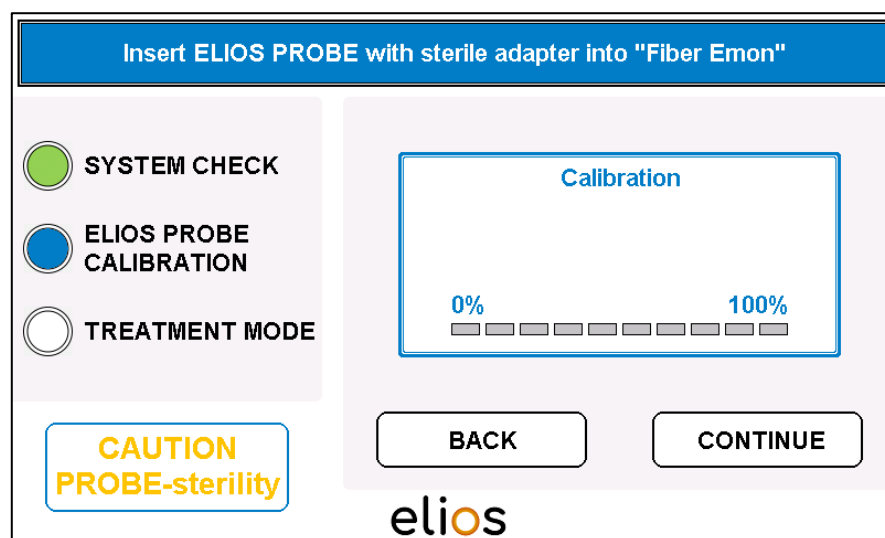

Fig. 4-10: Insert fiber with sterile adapter
- The operation is to be confirmed by the **“CONTINUE”** button (Fig. 4-10).